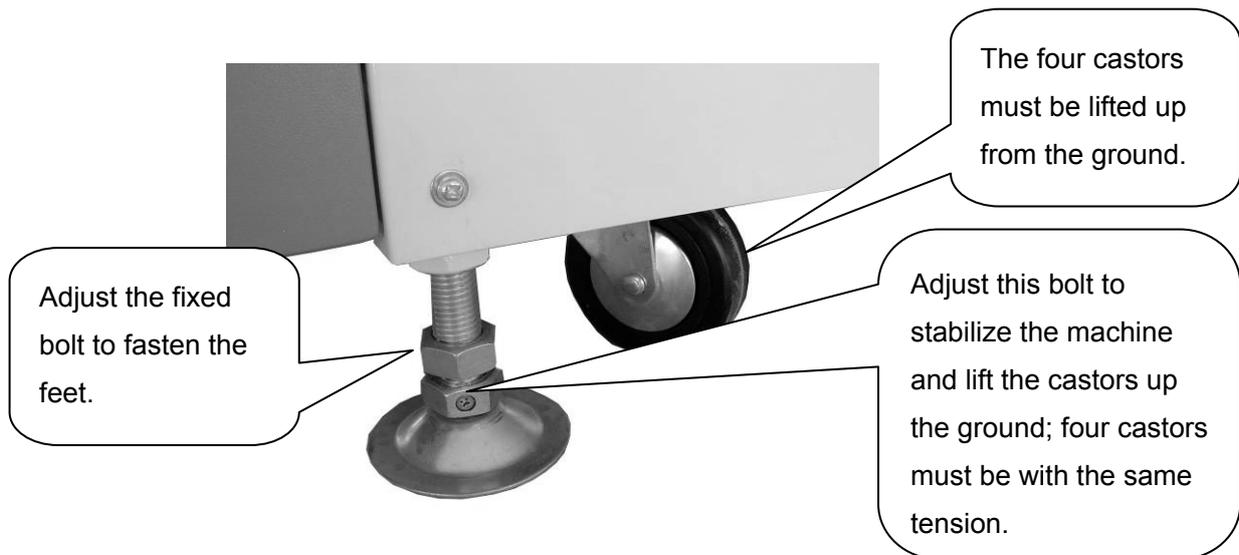
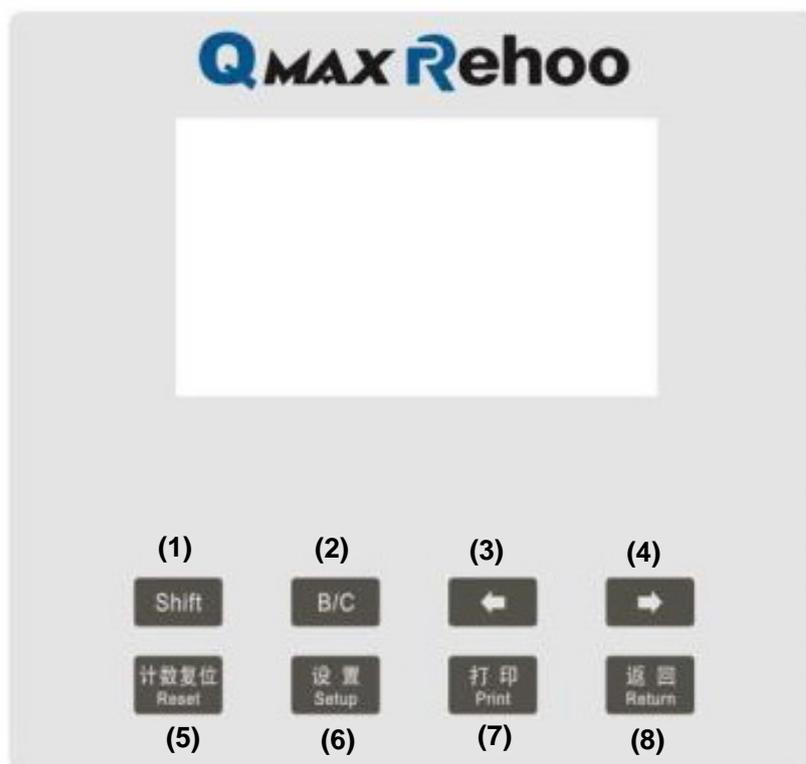

Fig. 2 Castor and Feet Adjustment
Figure 1 Control Panel
When the machine is powered on, it goes to Initialization Interface (see in Figure 2). The below picture shows a processing bar with current language. Press Button (1) **[Shift]** (see Figure 1) momentarily to select Chinese or English language if desired. Other buttons are inactive.